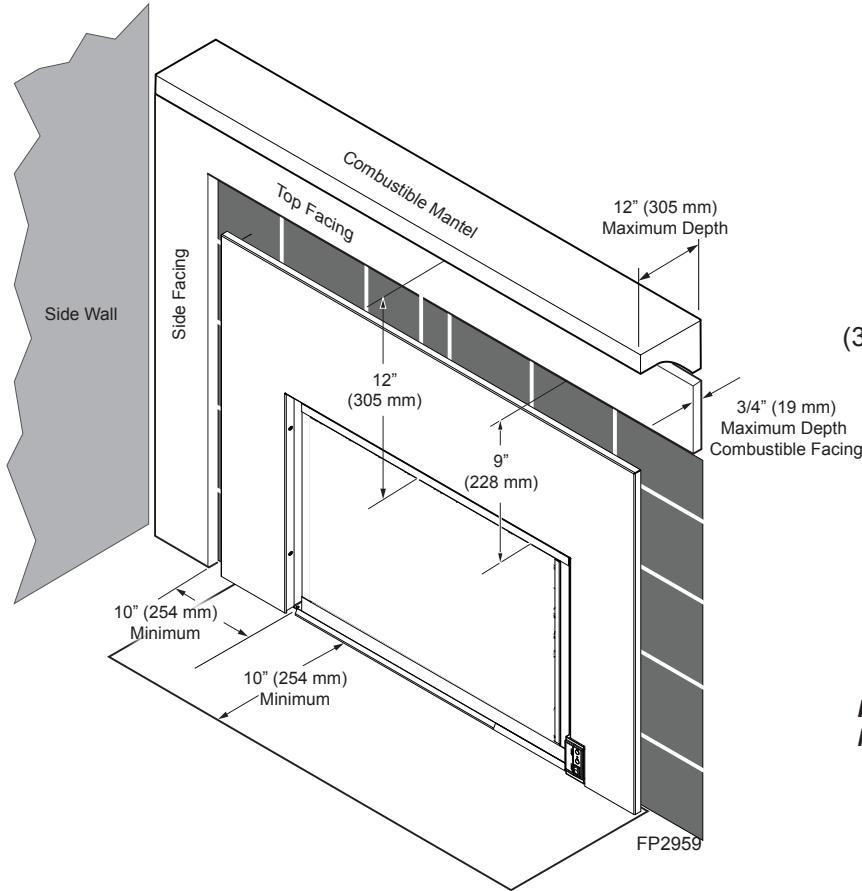

Figure 3 -
- Minimum clearances to combustibles, such as mantels, must be maintained. *Refer to Pages 8 and 9, Figures 3, 4 and 5.*
The dimensions shown on Pages 8 and 9, Figures 3 and 4, are minimum clearances to maintain when installing this heater. Follow these instructions carefully to ensure safe installation. Failure to follow instructions exactly can create a fire hazard.